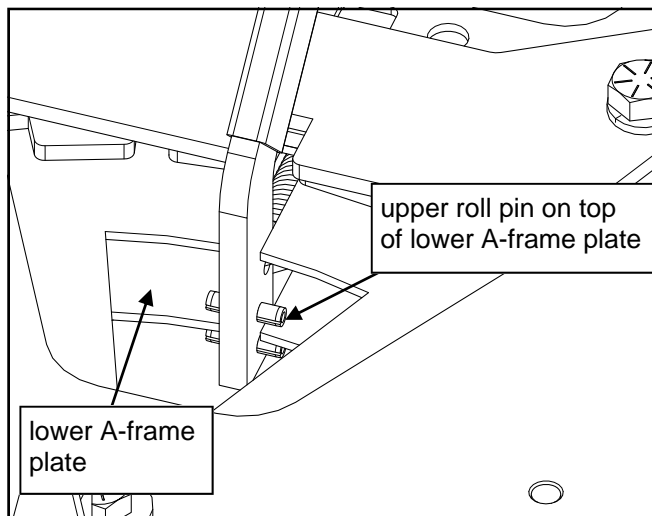

Fig. 3.4 (Angle Latch Handle)
3.4 Orient the angle latch handle so that the spring and handle point away from the moldboard. See Fig 3.4. Slide angle latch handle and spring into blade angle slot, being certain to capture lower A-frame plate between the angle latch handle roll pins.